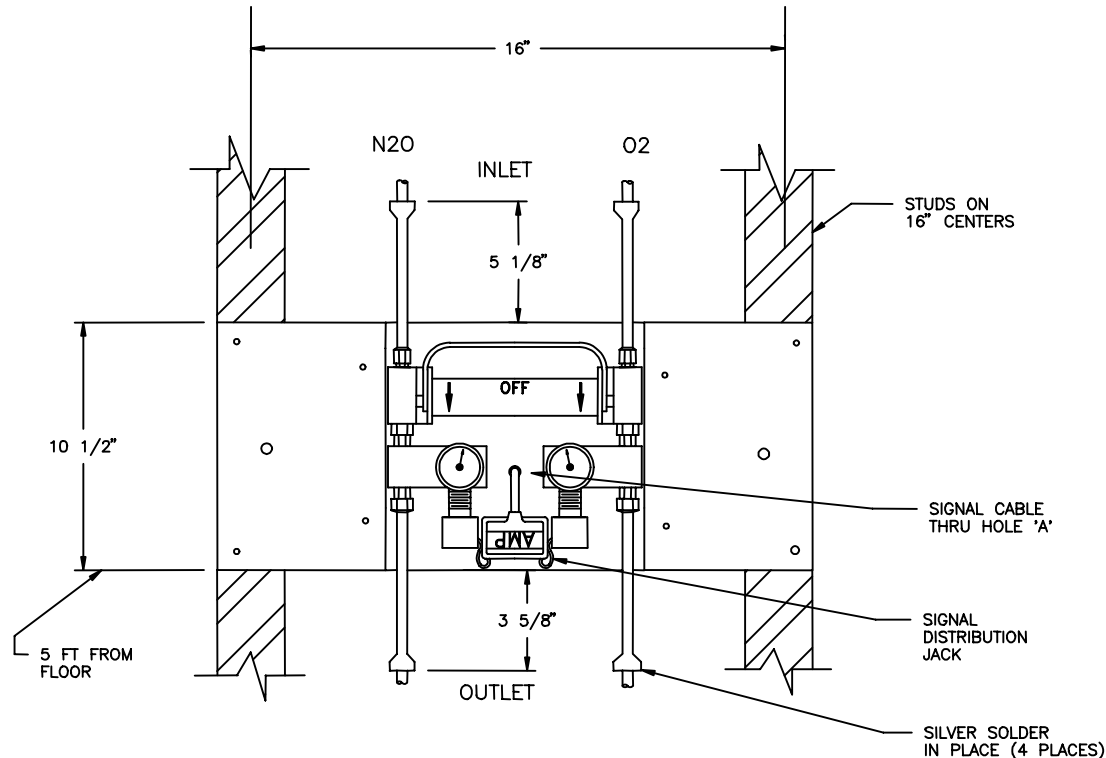

FIG. 1
1. With black bezel and lexan window removed, position chassis assembly in place. See Figure 1.
2. Check to insure that chassis is level. Nail main chassis to studs using drywall nails (not supplied). See Figure 1.
4. Feed signal cable through hole "A" and plug into signal distribution jack. See Figure 1.